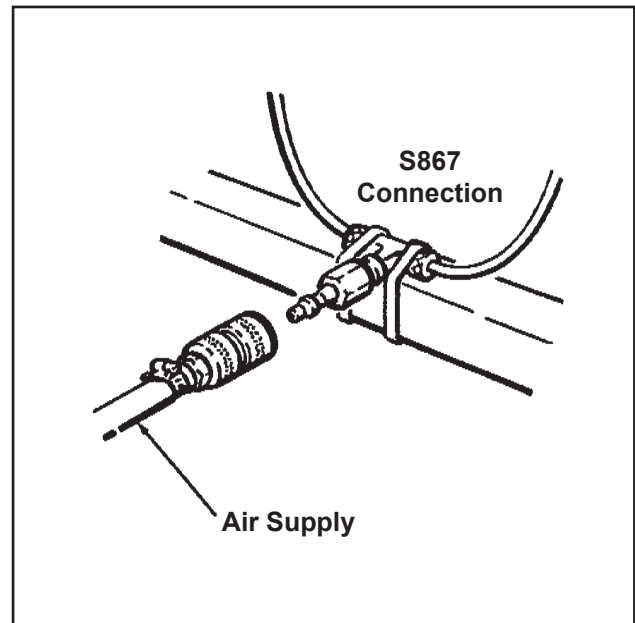

Figure 3-1 Air Connection
2. Turn air valve on both applicators "Off" and connect plant air supply to male quick disconnect on the lower/rear frame rail of the applicator frame. See **Figure 3-1**.